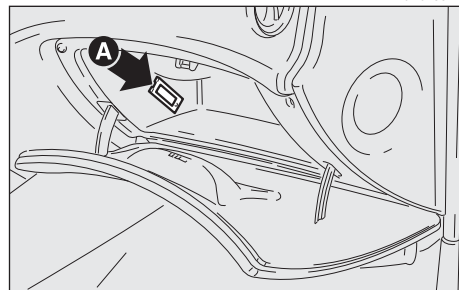

fig. 60
- Remove the light pushing with a screwdriver on the tab (**A-fig. 60**).